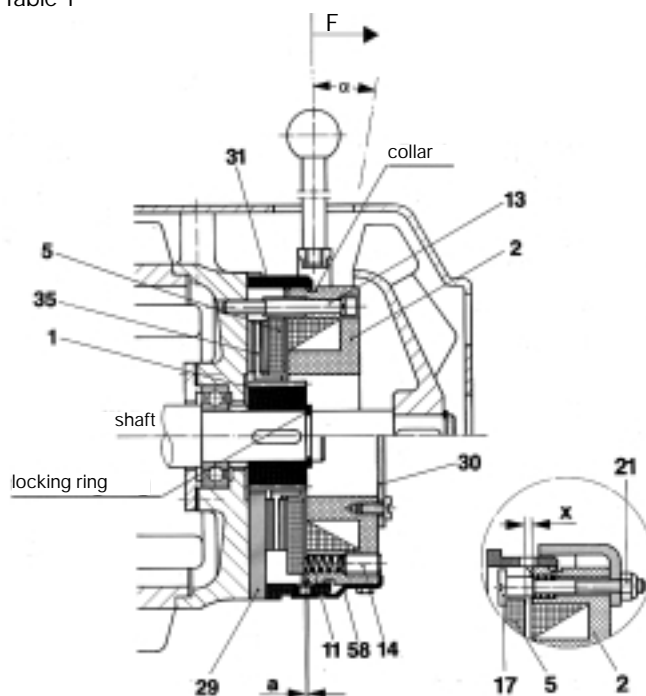

Fig. 2
If no suitable friction surface is available, please use our flange plate (29, Fig. 2, lower half).
When adjusting the locking nuts (21), please observe that the restoring bolts (17) limit the armature disk (5) stroke in the direction of the brake. They may only be tightened using the locking nuts so much that the armature disk (5) can still carry out the stroke x (see Table 1 and Fig. 2 (Detail)).